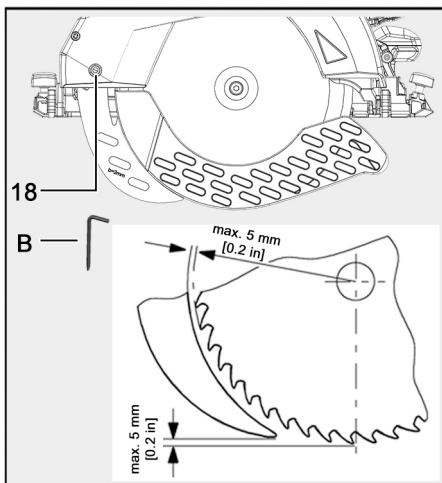

Fig. 9: Distance riving knife to saw blade
2. Using the Allen key (B) provided, turn the screw (18) **counterclockwise** to adjust it.
- Do not exceed the maximum distance to the saw blade (see Fig.. 9).
4. Using the Allen key (B), turn the flange screw (18) **clockwise** to tighten it.